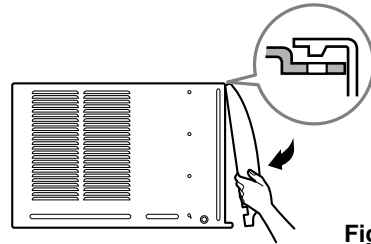

Fig. 10
- 13 Attach the front grille to the cabinet by inserting the tabs on the grille into the tabs on the front of the cabinet. Push the grille in until it snaps into place. (See Fig. 10)